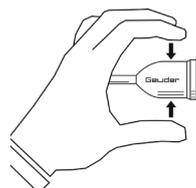

Fig. 2a
- Grasp the infusion sleeve according to fig. 2a and screw it off of the ultrasonic tip.